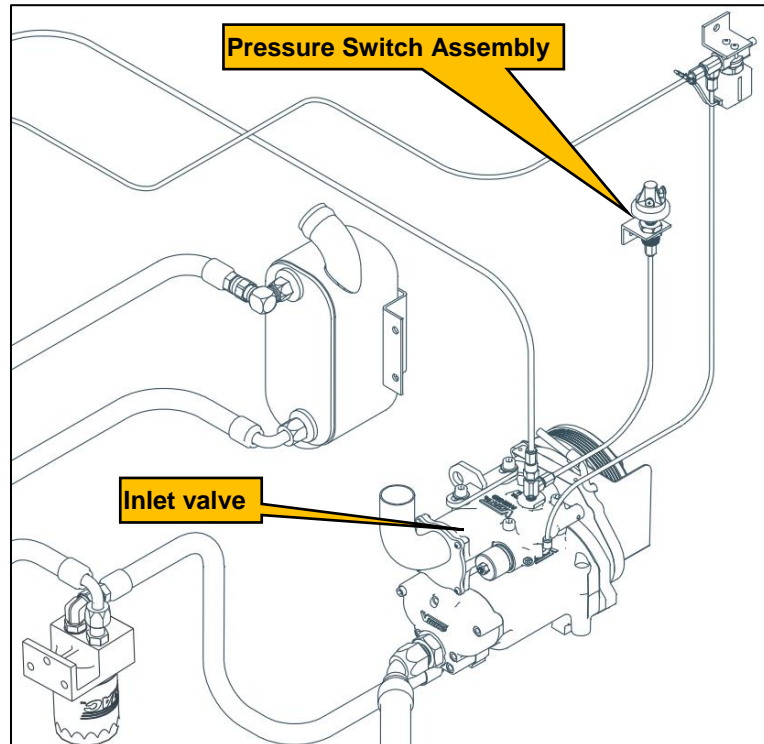

Figure 2
1. Locate the Pressure Switch assembly, which will be connected to the compressor's inlet valve (Figure 2) and disconnect the wires from the switch.